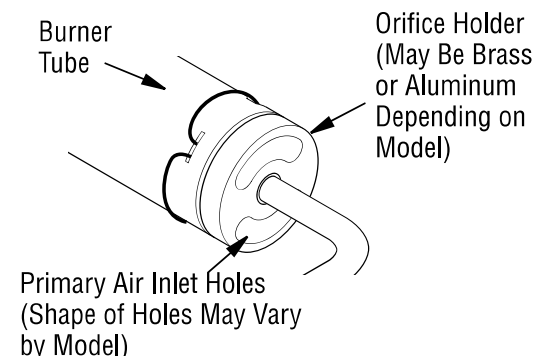

Figure 44 - Orifice Holder On Outlet Burner Tube
2. Inspect burner, pilot and primary air inlet holes on Orifice holder for dust and dirt (*see Figures 44 and 45*).